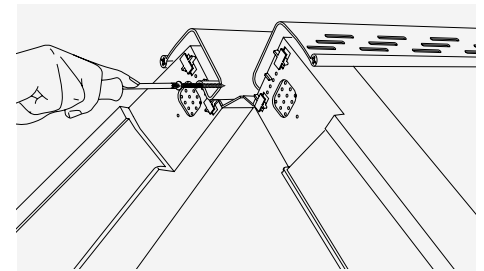

Fig. 10 – Screw verge units at apex of verge
- 11 At apex of roof, where battens are located, retain top course dry verge unit by securing a 30mm long screw (supplied in the fixing kit) into second series of holes in verge unit and locate it behind nib section of dry ridge batten (Fig. 10).